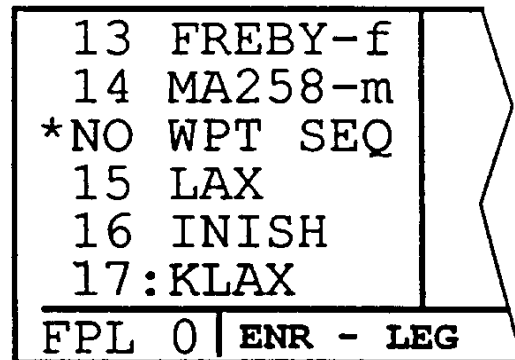

Figure 3D-61. No WPT Sequencing.
(2) After the approach has been entered into the flight plan, the KLN 90B checks to make sure that the resulting flight plan makes sense. If the KLN 90B detects any waypoints that are in both the en route portion of the flight plan and the portion that makes up the approach, the following message will be given, REDUNDANT WPTS IN FPL – EDIT EN ROUTE WPTS AS NECESSARY.
(3) Check the flight plan and delete those en route waypoints that are not necessary.
d. Naming Conventions of Terminal Waypoints. Note waypoint five in the VOR 25R to KLAX. Refer to Figure 3D-61. This is the missed approach point for runway 25. This approach applies to both left and right runways so the letter B is used to mean both. Refer to Table 3D-15 for naming conventions.